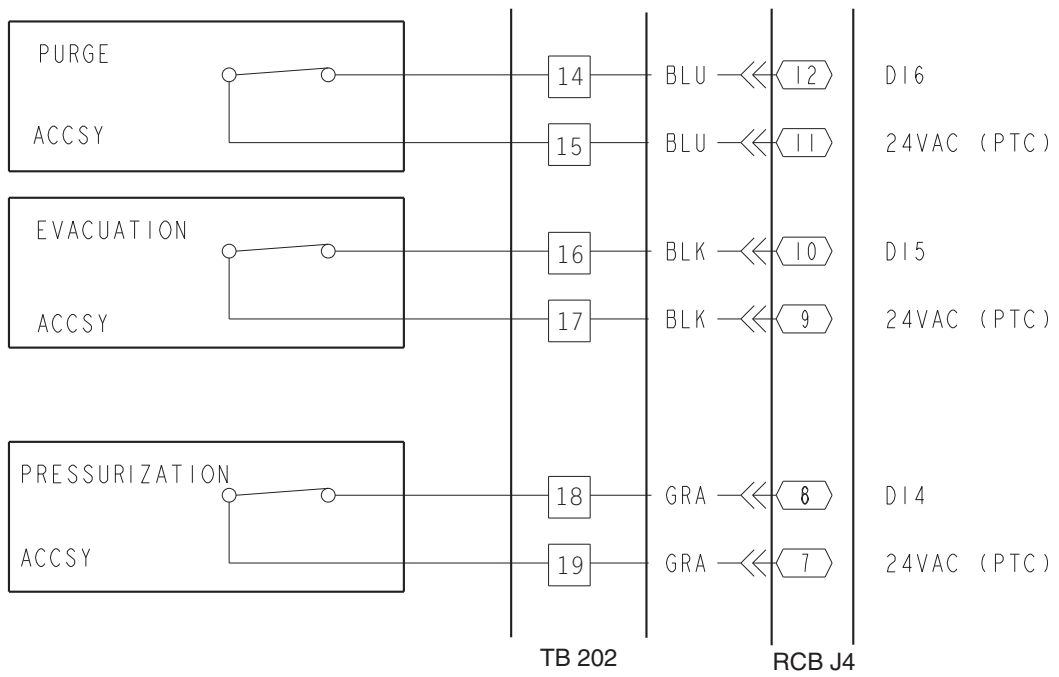

Fig. 66 — Purge, Evacuation, and Pressurization Wiring
- Smoke control — purge (Fig. 66)
- Smoke control — evacuation (Fig. 66)
- Smoke control — pressurization (Fig. 66)
This allows the space to be overpressurized relative to adjacent zones and prevents or slows entry of smoke into this space from adjacent zones. See Fig. 66 for wiring.
See Fig. 66 for wiring.